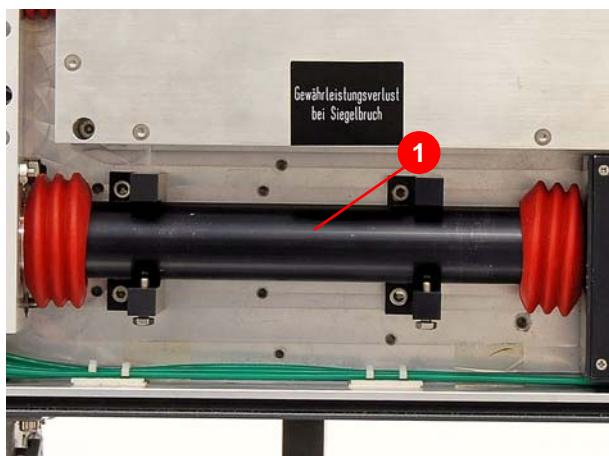

Figure 7.52 Installing the beam guide
20. Install the beam guide (1) (Figure 7.52) on the resonator side of the laser head and pay attention to the correct position of the bellows.